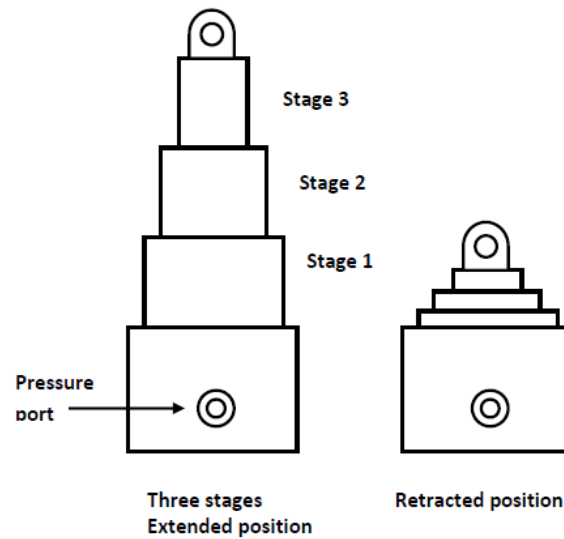

Fig.3.16 - Telescopic cylinder
- ▶ A telescopic cylinder (shown in Fig. 3.16) is used when a long stroke length and a short retracted length are required. The telescopic cylinder extends in stages, each stage consisting of a sleeve that fits inside the previous stage.